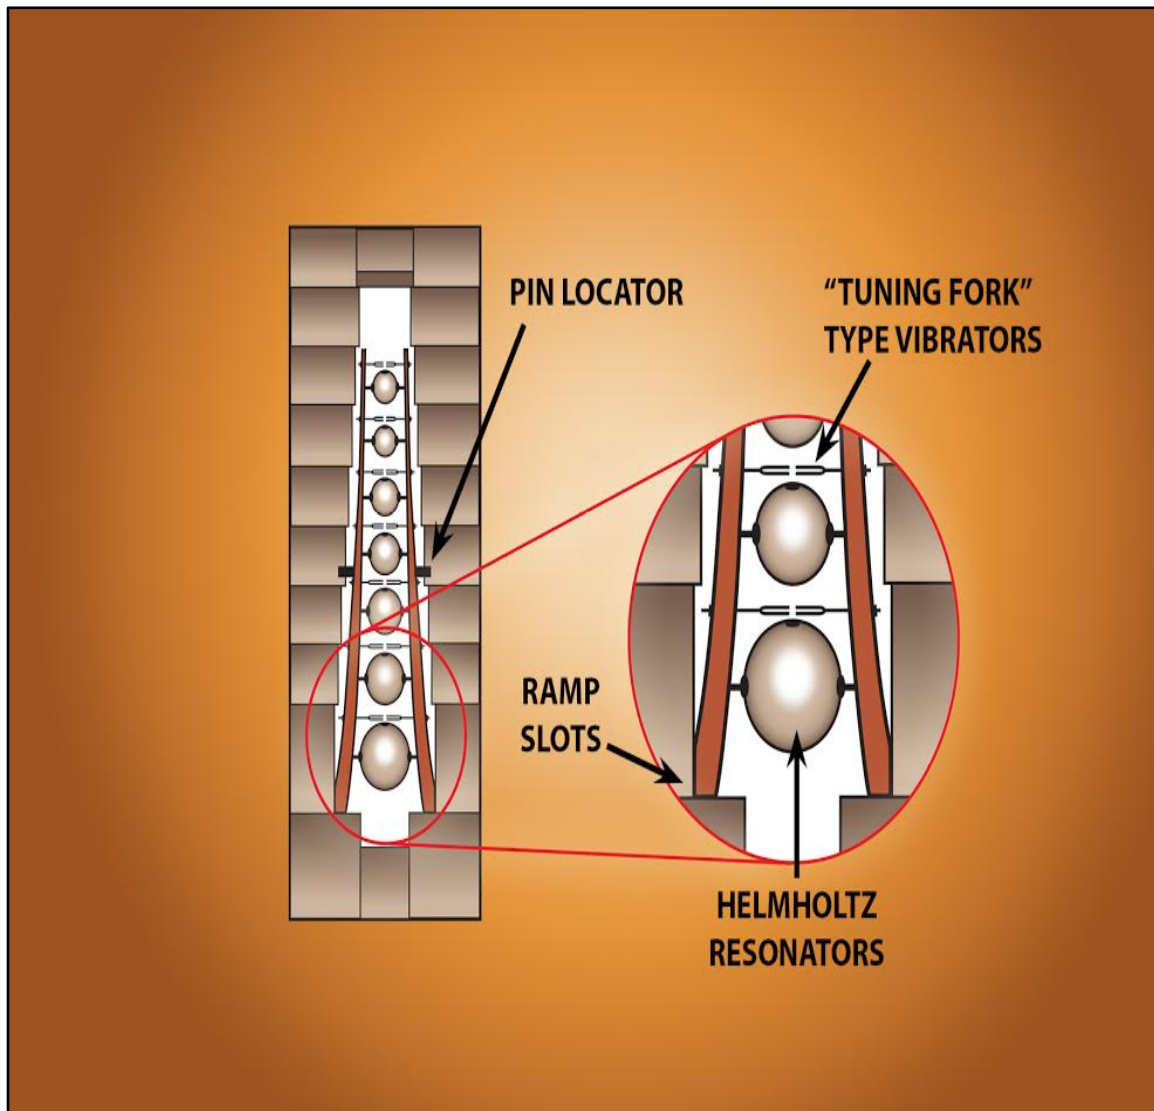

Figure 14. Resonator Assemblies
- The Grand Gallery was not only specifically designed to direct the Earth's frequencies upward into the Antechamber and then into the Kings Chamber, but based on remaining evidence it is thought the Grand Gallery had resonators installed (remember the slots in the opposing side ramps, grooves in the walls above the slots in the ramps and the ratchet style ceiling in Figure 8) to amplify and convert the lower frequencies into the appropriate frequencies while directing them into the Antechamber/Kings Chamber. Although the original contents of the Grand Gallery were likely removed by Caliph Ma'mun in 820 AD and later explorers, there are mounting points that could have been used for 27 pairs of resonator assemblies consisting of vertical wooden shafts anchored in the ramp/slots and stabilized by the pin locators in the vertical walls that are visible in Figure 14. These wooden shafts would have supported and anchored tuning forks and vases that were used as Helmholtz Resonators